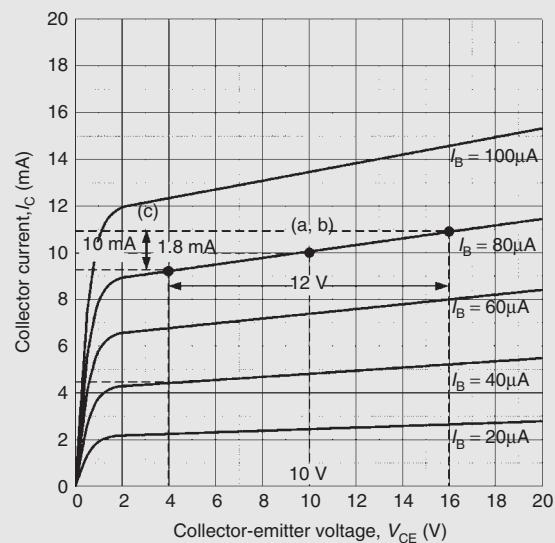

Figure 12.14
**Problem 4.** Figure 12.14 shows the output characteristic for an n-p-n silicon transistor. When the collector-emitter voltage is 10 V and the base current is  $80 \mu A$ , determine (a) the value of collector current, (b) the static value of output resistance, and (c) the dynamic value of output resistance.
- (a) From Fig. 12.14, when  $V_{CE} = 10$  V and  $I_B = 80 \mu A$ , (i.e. point (a, b) on the graph), the **collector current,  $I_C = 10 \text{ mA}$**